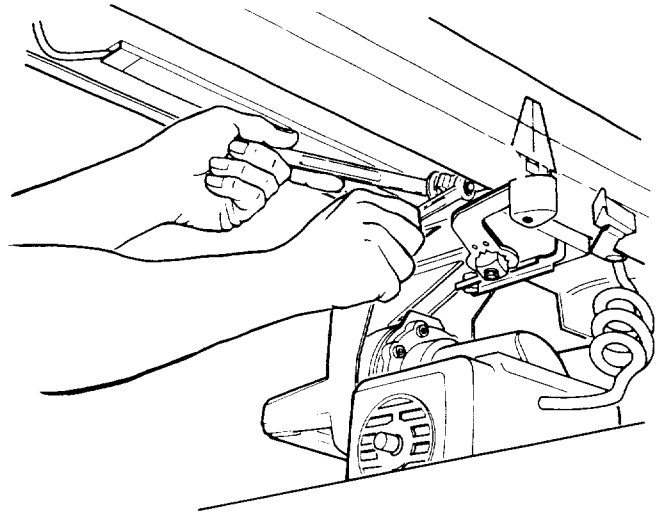

Fig. 136- Location of Hex Nut
2. To adjust the bearing, use a 9/16 inch wrench to hold the bolt head while using a 1/2 inch wrench to loosen the hex nut. (Figure 136)